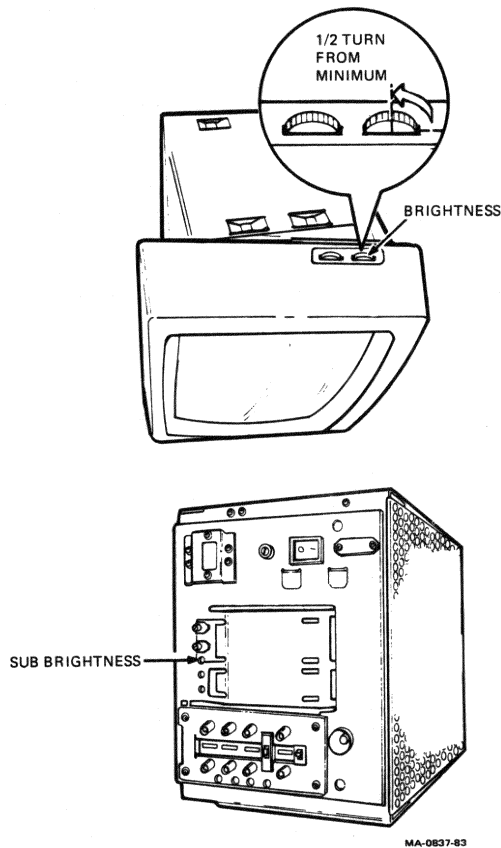

Figure E-19 White Raster Adjustment (part 2)
4. Slowly turn BRIGHTNESS control from maximum to minimum and make sure the raster goes from white to gray. (See Figure E-19.) Readjust SUB-G DRIVE and SUB-B DRIVE controls as necessary to obtain a white and gray raster at all BRIGHTNESS levels.
7. Turn SUB-BRIGHTNESS control (Figure E-19) clockwise until raster appears.